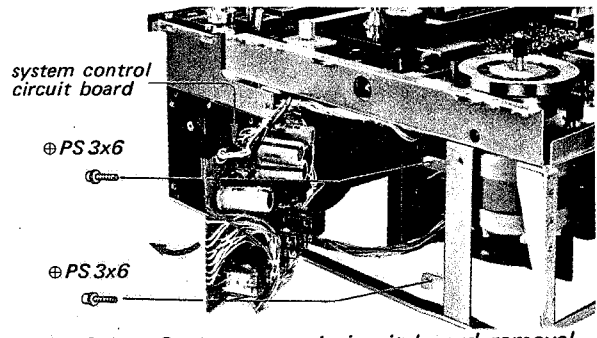
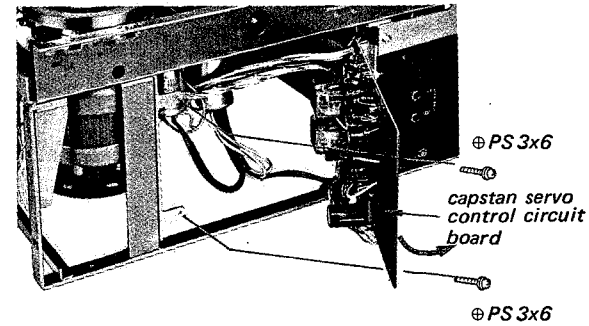

Fig. 2-4. System control circuit board removal
Fig. 2-5. Capstan servo control circuit board removal
**(B) APS & ATS Circuit Board**
- ① Remove the reel panel.
- ② Remove the four screws securing the circuit board at each corner.
**(C) System Control & Capstan Servo Control Circuit Boards**
- ① Remove the cabinet.
- ② Remove the two screws securing the each printed circuit board in Fig. 2-4 and Fig. 2-5.
- ③ The printed circuit board can now be opened in the direction shown by the arrow in Fig. 2-4 and Fig. 2-5.